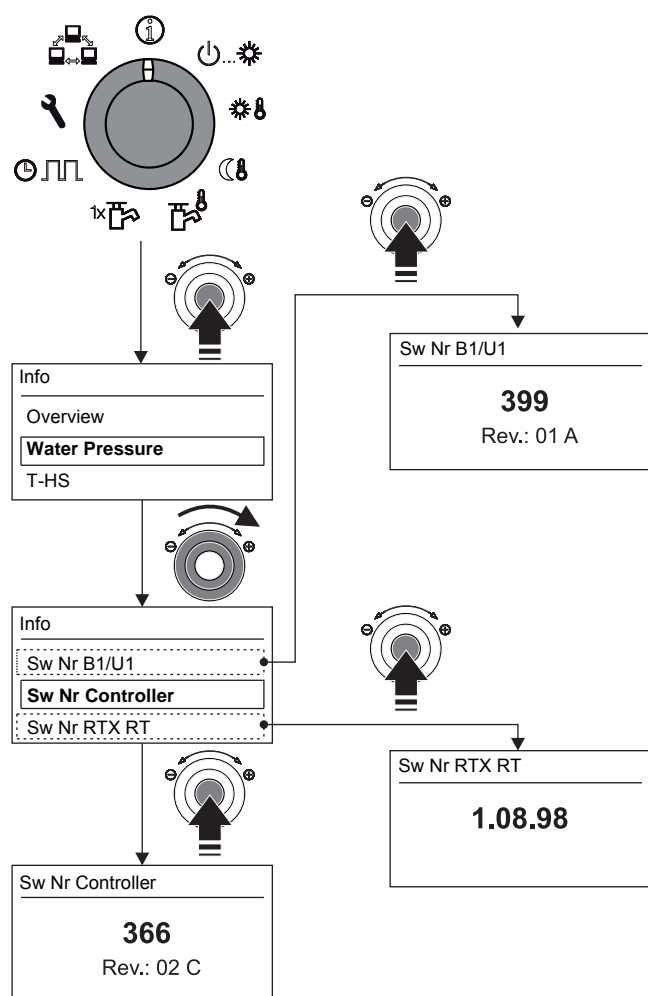

Fig. 6-4 Software information of the controller components
Have the significant equipment data to hand (see fig. 6-4 for the procedure):
- Software versions (see fig. 6-4) of: